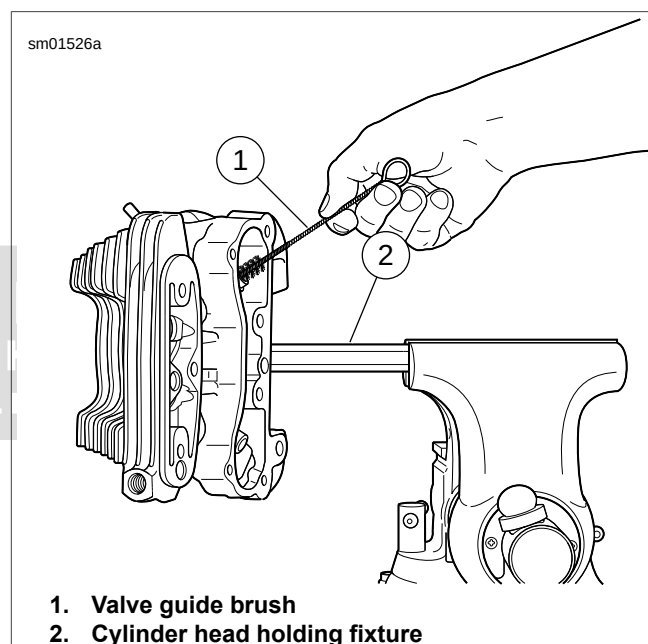

Figure 3-63. Scrubbing Valve Guide Bore
- See Figure 3-63. Clean valve guide bore with the VALVE GUIDE CLEANING BRUSH (Part No. HD-34751) (1).
10. See Figure 3-63. Clean bore with the VALVE GUIDE CLEANING BRUSH (1).